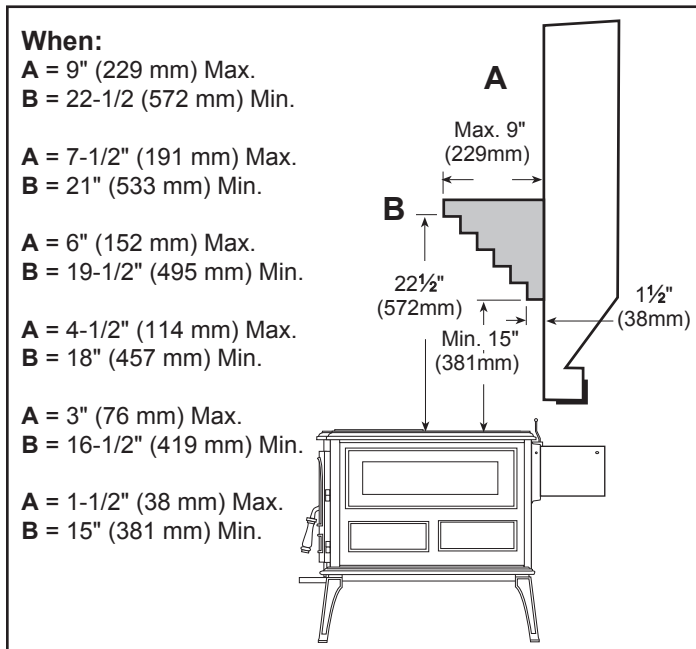

Figure 4.8 - Mantel and trim clearances.
Maximum Mantel depth (A, Figure 4.8) of a combustible mantel is 9" (230 mm). At that depth, the clearance to the stove top (B) must be a minimum of 22-1/2" (572 mm).